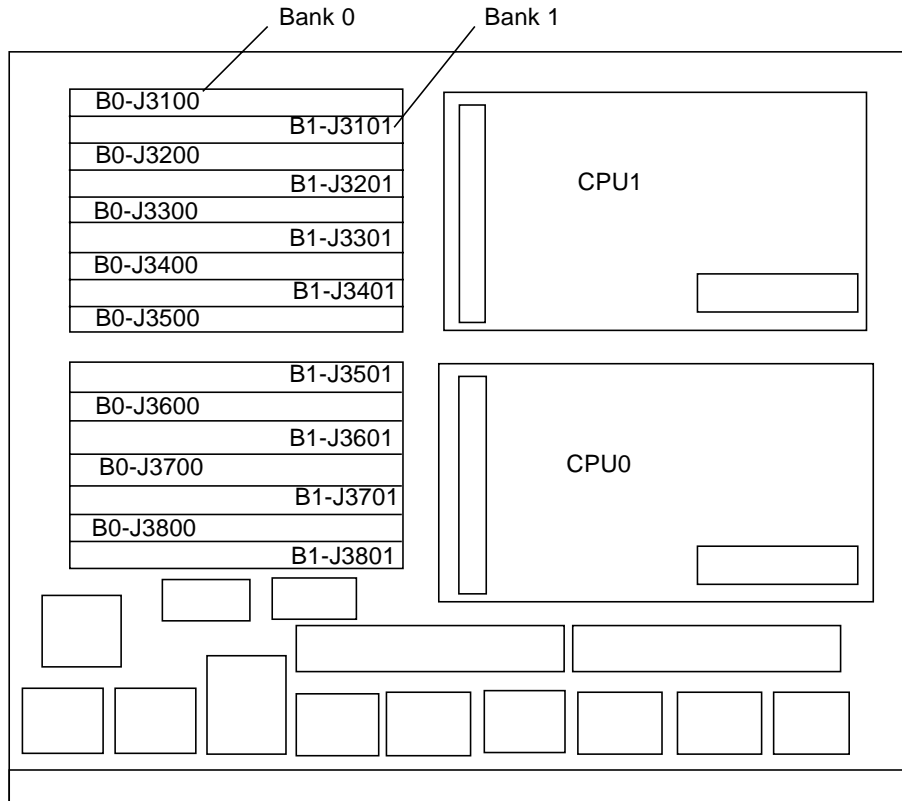

FIGURE 3-13 DIMM Slot Numbers
The CPU/Memory+ board has 16 DIMM sockets, which are divided into two banks of 8 DIMMs each, Bank 0 and Bank 1. Bank 0 and Bank 1 DIMMs occupy alternate slot locations; Bank 0 DIMMs are in the even numbered slots, and Bank 1 DIMMs are in odd numbered slots (FIGURE 3-13).
3. Use the system error messages to locate the slot (FIGURE 3-13) for the DIMM you need to replace.